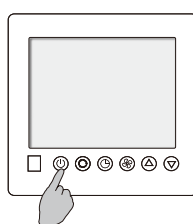

fig.3
3. Press ON/OFF button to quit customer-reading state. (See fig.3)